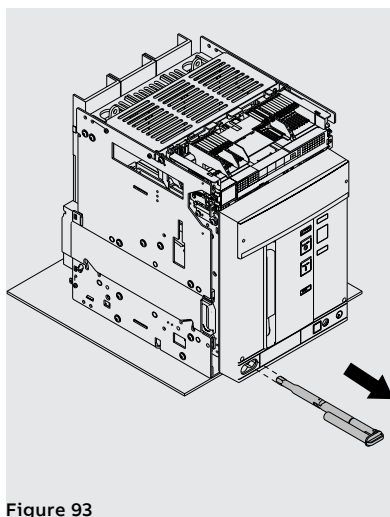

Figure 93
8. Extract the disconnection crank from its housing See Figure 93.